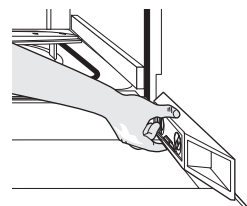

Figure 9b
7. Check that dishwasher is level from front to back by placing level on side of opened door. See **Figure 9b**.